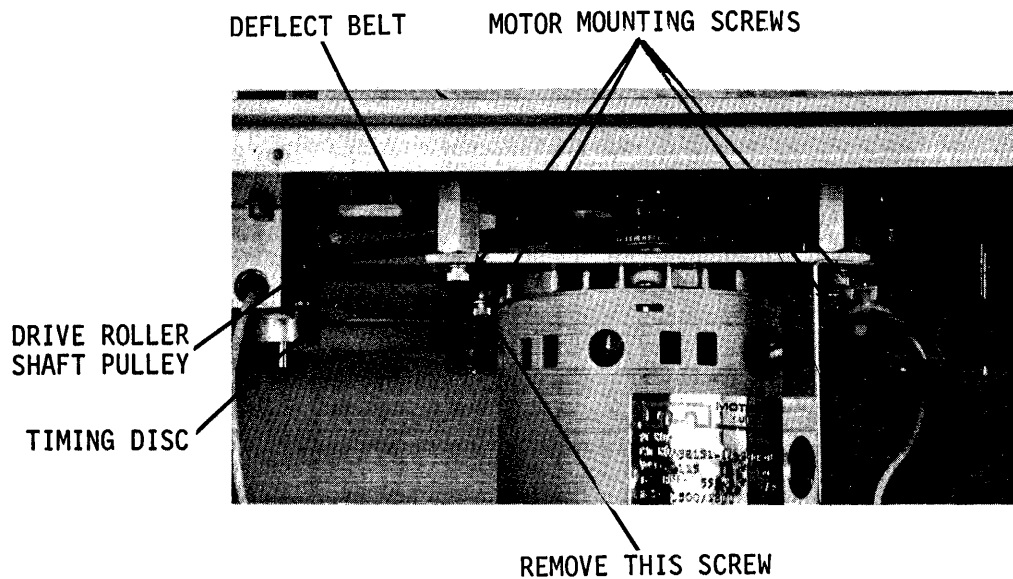

Figure 6-3. Drive Motor Belt Tension Adjustment
- a. Using a 9/64 Allen ratchet wrench, loosen the 4 socket head motor mounting plate screws, figure 6-3.